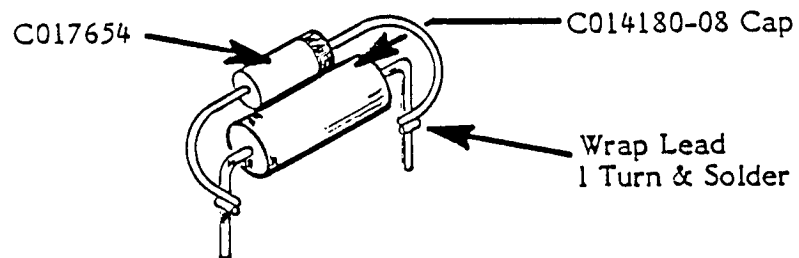
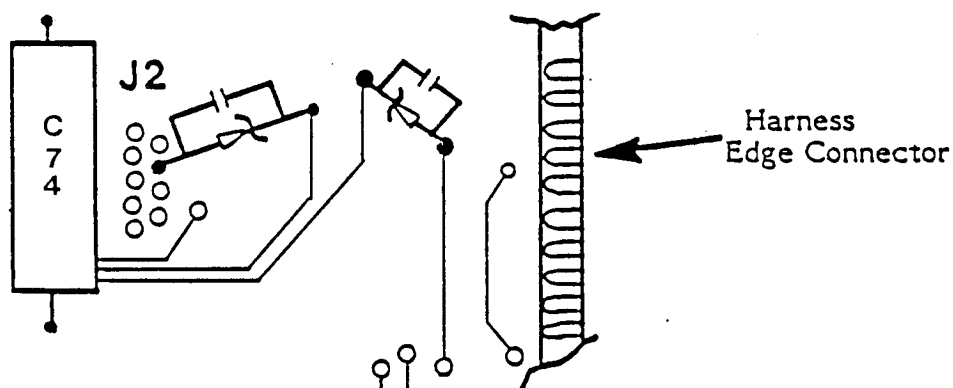

Figure 3-1. POP Static Modification
Figure 3-2. Assembly Installation
- B. Attach the Zener Diode to the capacitor (See Figure 3-1).
- C. Make certain the holes into which the assembly (built in Figure 3-1) is to be inserted are clear of all solder.
- D. Insert and solder the two assemblies (built in Figure 3-1) into the two locations indicated on the POP PCB (See Figure 3-2).